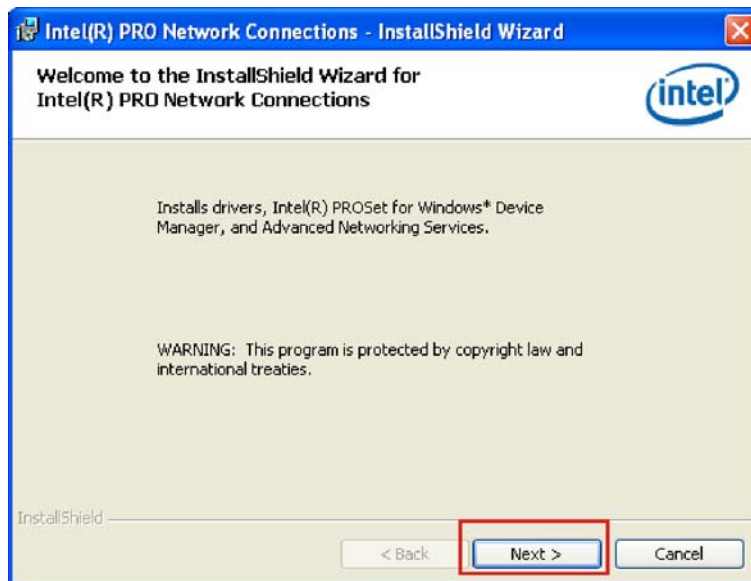

Figure 7-16: LAN Driver Welcome Screen
Step 4: The welcome screen appears (**Figure 7-16**).